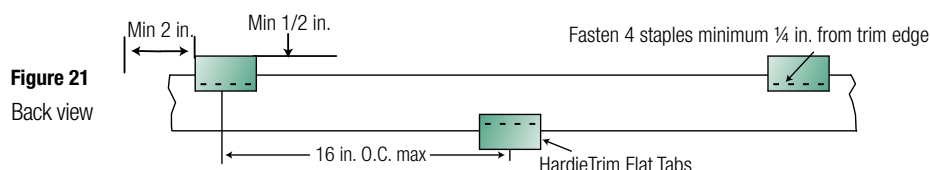

Figure 21
Step 1: Attach HardieTrim Flat Tabs to the back side of the trim using four, 18 ga. 1/2 in. L x 1/4 in. W narrow crown corrosion resistant staples, equally spaced in one row, positioned no closer than 1/2 in. from trim edges using a pneumatic staple gun. (figures 21, 22)